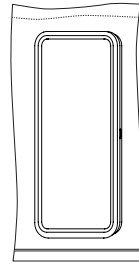

Fig.3
- ◆ Install the filter into the machine (FIG3)